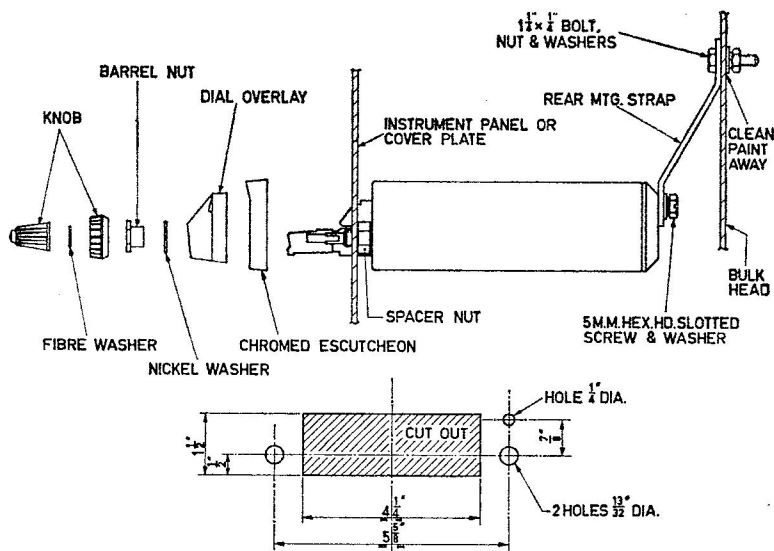

FIG. 2
2. Behind Instrument Panel or Cover Plate (Fig. 2).
Mount the receiver as shown in the diagram (Fig. 2).